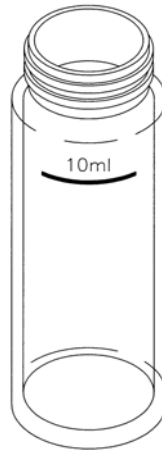

Figure 2. Measurement Cuvet.
7. Take the ZERO FTU standard calibration solution, HI 93703-0, or equal, or turbidity-free dilution water, and fill the measurement cuvet. See Figure 2.